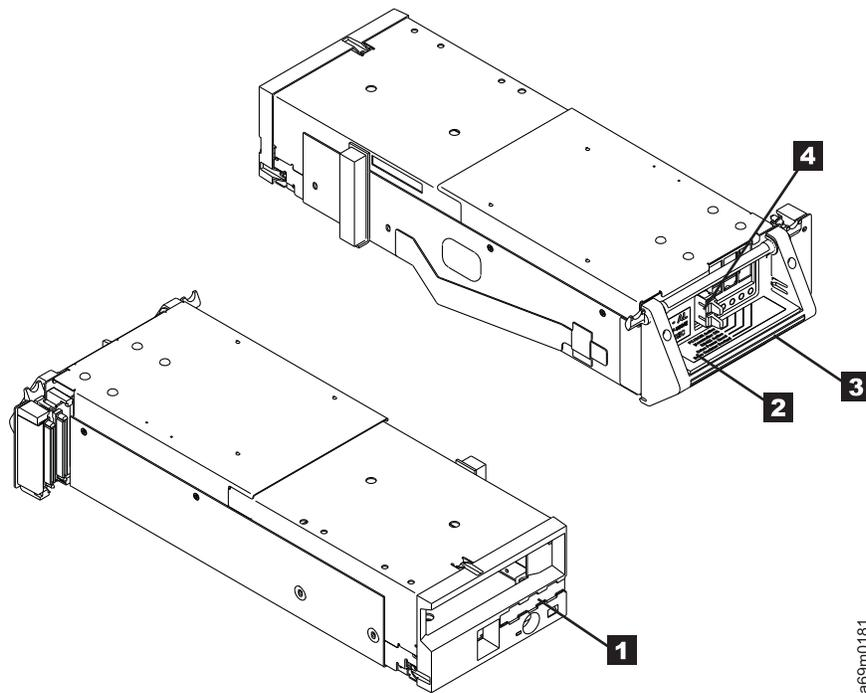

Figure 78. Removing and replacing a drive canister assembly - LTO fibre channel hot swap
5. Refer to Figure 78. Unplug the fibre cable.
- If a logical library label (see **4** in Figure 78 on page 365) is attached to the old drive, remove it from the old drive and attach it to the new drive.